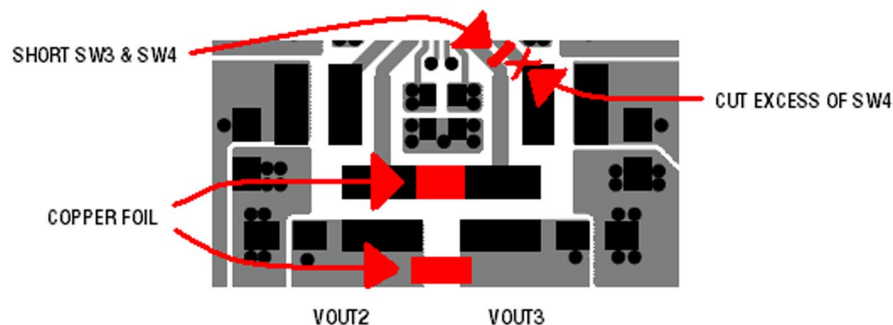

Figure 5. Copper Foil Between L2 and L3, Modified SW4 Trace
2. Add copper foil between the L2 and L3 SW node pads. Refer to Figure 5 for steps 2 thru 5.